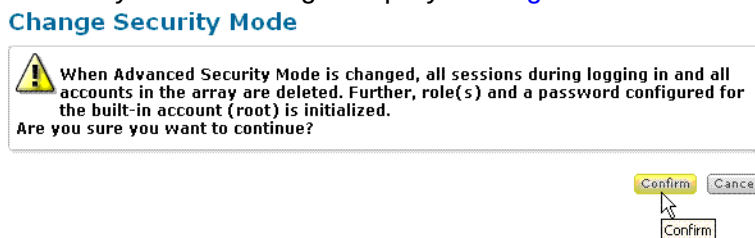

Figure 5-7: Change Security Mode System Message
- Observe any messages that display and click **Confirm** to continue. An example of a system message displays in Figure 5-7